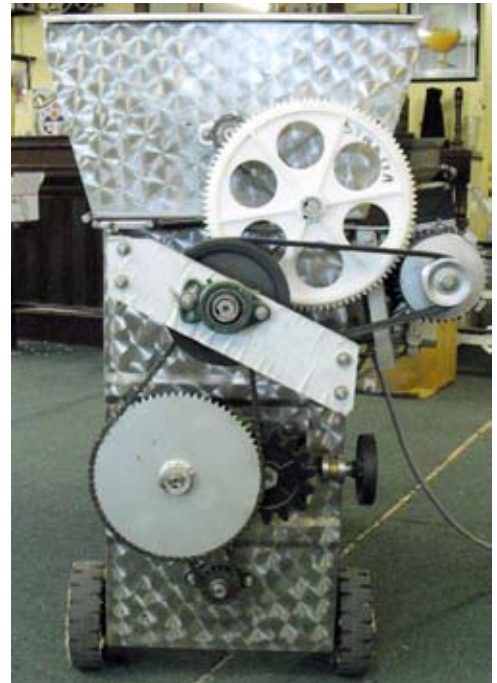

Fig. 4. Remove end cover annually and lubricate chains and gears. Do not grease the V-belts. Do not wash down these components.
2. Use food grade lubricant on parts that make contact with the grapes. You do not need food grade grease on the chains and gears under the end cover (Fig. 4).
4. See Fig. 4. Remove the stainless cover from motor end of the unit after each season. Lubricate chains, gears but not the V-belts. Do not wash down this area.